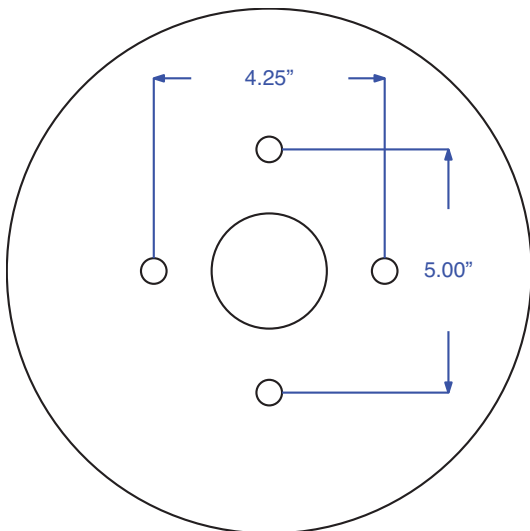

FIG. 1
- 4 screws are supplied in the kit but only 2 are used to mount the pump housing (A) to the drum cover (200a). Discard the extra 2 screws.
- Use the set of mounting holes that are 4.25 inches apart to secure the pump housing (A) to the drum cover (200a). The pump housing will not line up correctly to the holes that are 5 inches apart. Refer to FIG. 1.
- When properly installed the outlet housing (A) rests on cover (200a).